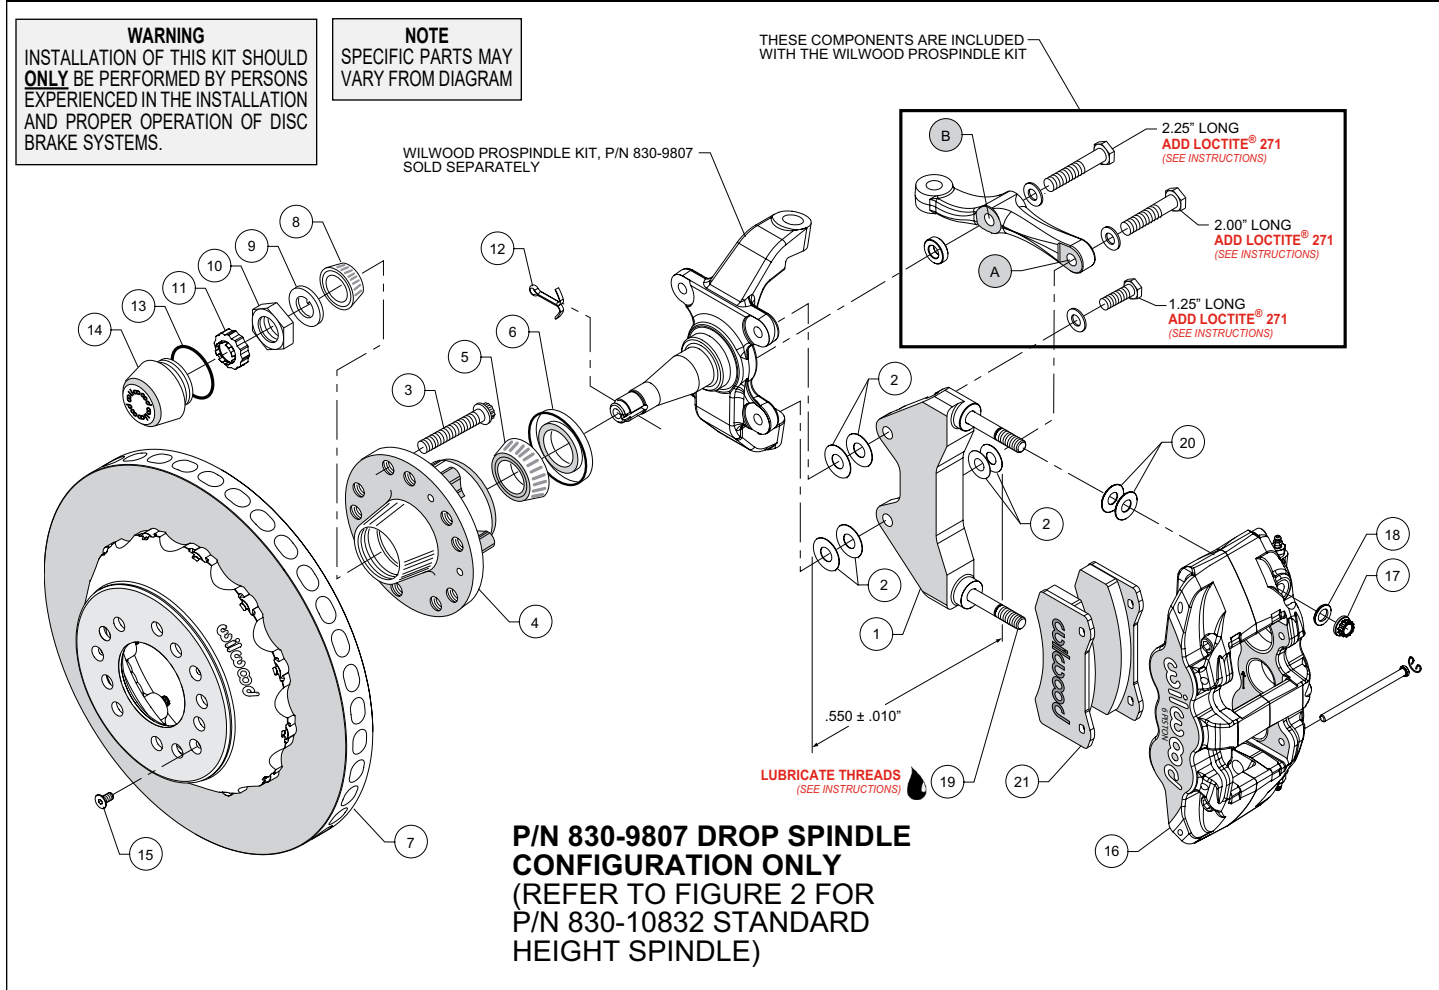

Figure 1. Installation Configuration For Drop Spindle, P/N 830-9807
**NOTE:** Numbers in parenthesis refer to the parts list and Figures 1 and 2 on the preceding pages.
•**NOTE:** Each Wilwood ProSpindle kit includes bolts, washers, and a spacer to mount the steering arm and caliper bracket. The various bolts are identified by length in the following instructions and in Figures 1 and 2.
**For 2" Drop ProSpindle (P/N 830-9807):** The caliper bracket assembly (1) should initially be installed with clean, dry threads on the mounting bolts.
- Orient the bracket as shown in Figure 1 and Photo 1. Install at top spindle hole using 1.25" long bolt and .06" thick washer (from ProSpindle kit), and two .016" thick shims (2) between the bracket and spindle, Figure 1.
- Orient the steering arm, and identify the hole marked 'A', as shown in Figure 1. Install at bottom spindle hole using 2.00" long bolt, .06" thick washer (from ProSpindle kit), two .016" thick shims (2) between the steering arm and the bracket, and another two more .016" thick shims (2) between the bracket and spindle, Figure 1. The bracket is located between the steering arm and spindle. **NOTE:** The bracket and shim washers must add up to a total thickness of .550" ± .010", Figure 1.
- Finish attaching the steering arm through the hole marked 'B', as shown in Figure 1. Install using 2.25" long bolt, .06" thick washer, and .25" thick spacer (all from ProSpindle kit), Figure 1.
•Slide the hat/rotor (7) onto the hub (4) taking care to align the small countersunk holes in the hat with the small threaded holes in the hub. **NOTE:** *The hat must fit flush against the hub face or excessive rotor run out may result.* Install three flat head screws (15) through the small holes in the hat, Photo 6, and torque to 85 in-lb.
•**NOTE:** *This kit contains distinct right and left hand calipers that must be mounted in a specific direction, as described below.* Lubricate the caliper mounting studs (19) with lightweight oil. Initially place two .030" thick shim (20) on each stud between the caliper and the bracket, as shown in Figure 1 or 2, and Photo 7. Mount the caliper (16) onto the bracket (1) using lock nuts (17) and washers (18), Figure 1 or 2. Ensure that the caliper is mounted so the largest pistons are at the rotor exit end of the caliper, in relation to the direction of rotor rotation. Temporarily tighten the lock nuts. View the rotor through the top opening of the caliper. The rotor should be centered in the caliper, Photo 8. If not, proceed as follows:
•Adjust by adding or subtracting shims (2) between the bracket and the spindle. Always use the same amount of shims on each of the two bolts between bracket and spindle.
•For the lower bracket mount bolt, if a shim was added between the bracket and spindle, then a shim must be removed between the steering arm and bracket, such that the total thickness of bracket and shims remain equal to  $.550 \pm .010$ ", Figure 1.
•Adjust by adding or subtracting shims (2) between the bracket and the spindle. Always use the same amount of shims on each of the two mounting bolts.
•Remove the two pad retaining pins from the caliper by carefully popping out the pin retaining clips and sliding out the pins. Insert the brake pads (21) into the caliper from the bottom, Figure 1 or 2, and Photo 9, with the friction material facing the rotor. Secure the brake pads in place with the pad retaining pins and clips, Photo 10. Reinstall the caliper onto the mounting bracket and